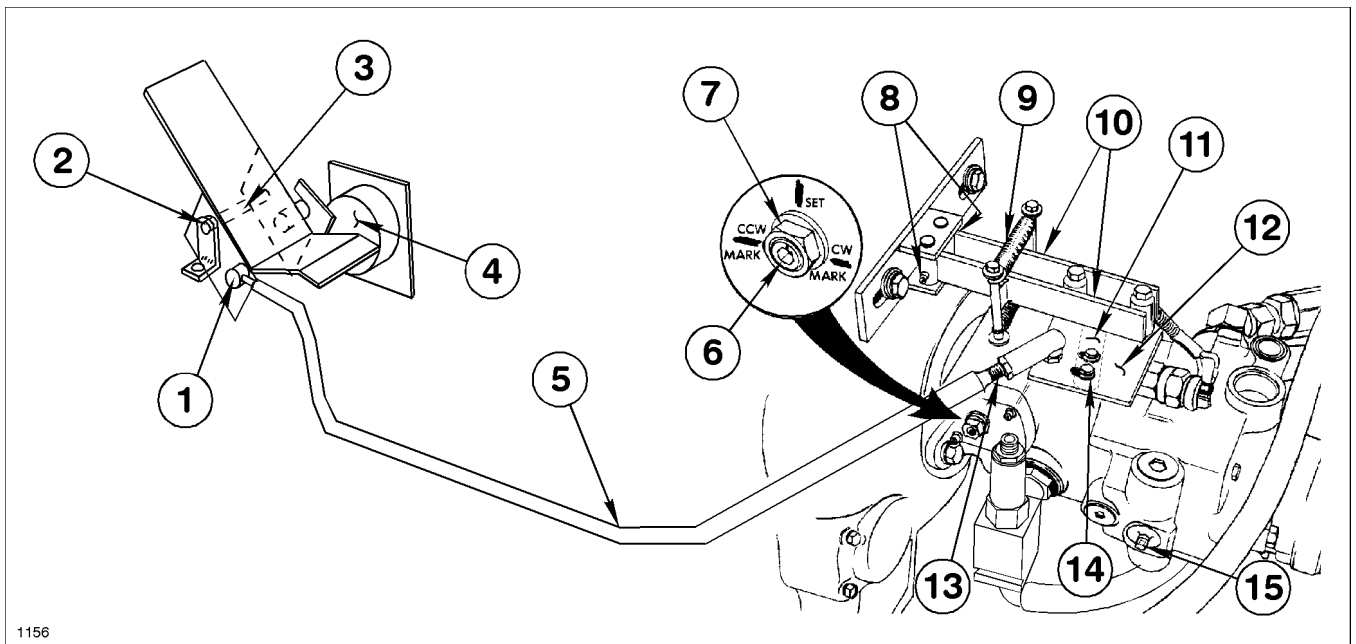

FIG. 50
LINKAGE MAINTENANCE (FIG. 50)
It is very important that the foot pedal operate freely and return positively to the NEUTRAL or CENTERED position. Periodic maintenance of the traction pedal requires applying grease to the grease fittings on the linkage control arms as shown in FIG. 50.
LINKAGE TROUBLESHOOTING (FIG. 50)
TRACTION PEDAL/ TRANSMISSION NEUTRAL ADJUSTMENT (FIG. 50)
4. Pull both control arms away from the control plate bearings (FIG. 50). When the control plate is adjusted correctly, the control plate WILL NOT rotate when the control arms are pulled away.
7. To adjust the control plate, loosen the two control plate mounting bolts, so it allows the control plate to center itself and allows the servo control arm to move independently as shown in FIG. 50. Retighten the two control plate mount bolts and verify the proper adjustment by pulling both control arms away from the control plate bearings. The control plate SHOULD NOT ROTATE! After proper adjustment proceed to STEP 10.